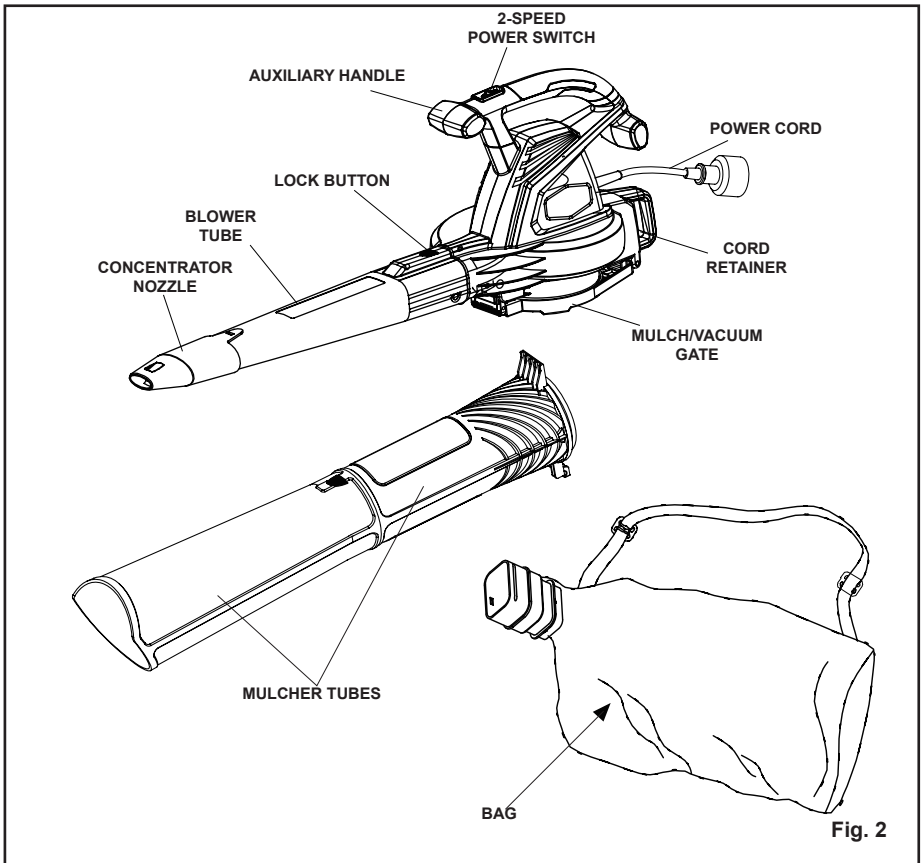

Fig. 2
The safe use of this product requires an understanding of the information on the tool and in this operator's manual as well as a knowledge of the project you are attempting. Before use of this product, familiarize yourself with all operating features and safety rules. (See Fig. 2)
1. Slide the front and rear mulcher tubes together until the lock button engages. (See fig 2)